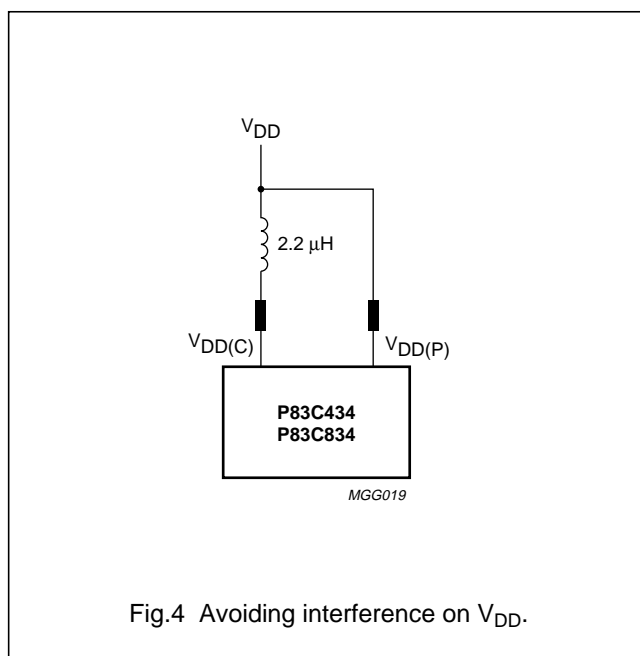

Fig.4 Avoiding interference on VDD.
- External decoupling of the of the CPU supply VDD(C); to avoid interference on the VDD line, the VDD(C) and VDD(P) pins should be connected as illustrated in Fig.4.